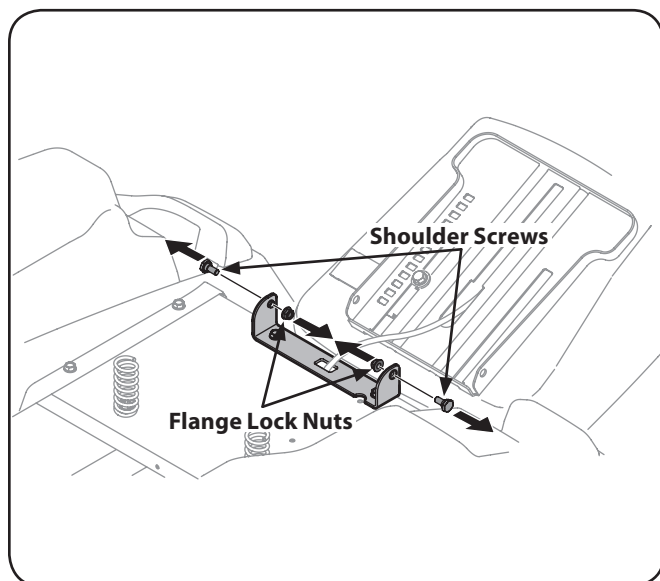

Figure 3-4
- Remove the two shoulder screws and flange lock nuts in the seat pan as shown in Figure 3-4.